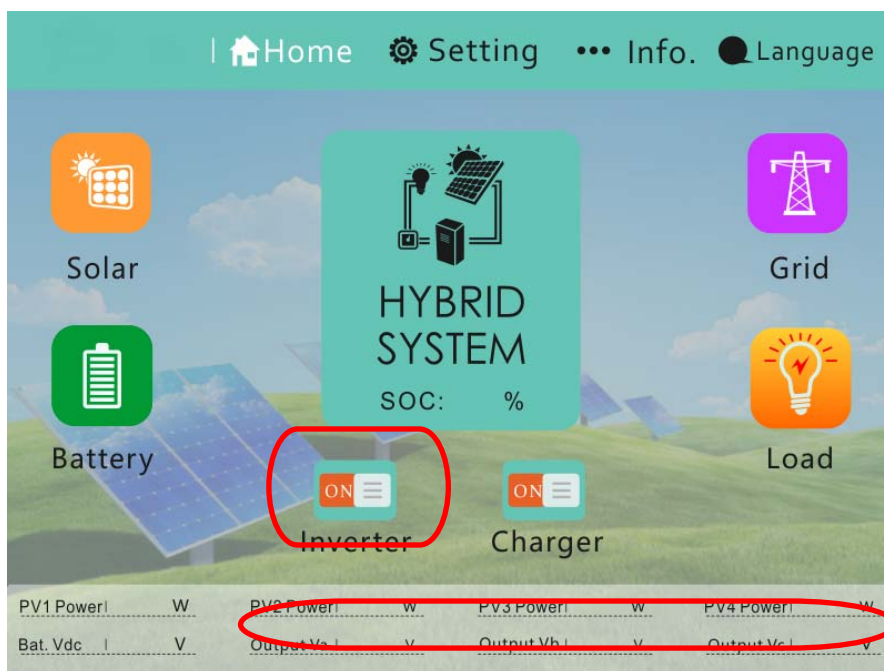

Fig 3.3 Inverter icon and output voltage display
1. Press the inverter icon (circle as Fig 3.3) on the display interface and confirm, then the medium GREEN indicator on the cabinet door should be lighted on, and the output voltage of each single phase displayed on the display interface should be 230V (default voltage).